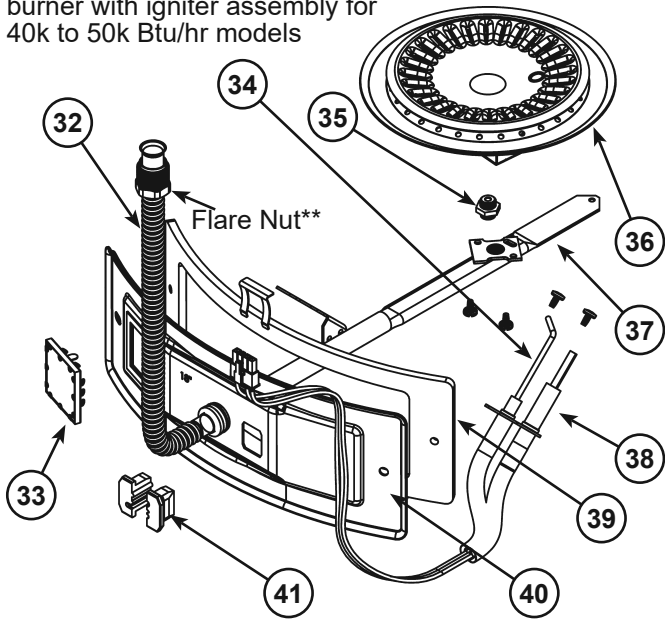

Figure 46
- 40 Manifold Door (see Figure 6 & Figure 7) (see also Figure 46 & Figure 47)
- 41 Two Piece Grommet With Clip (see Figure 6 & Figure 7) (see also Figure 46 & Figure 47)